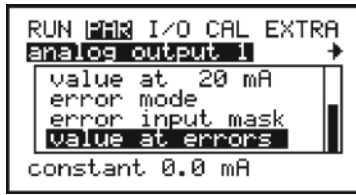

Fig. 23-24 Extended submenu analog output
- >Error mode<** If this parameter has been enabled it is possible to set the analog output to a defined value in case of error. After activation the points "Error input mask" as well as "Value at errors" can be selected (see Fig. 23-24).